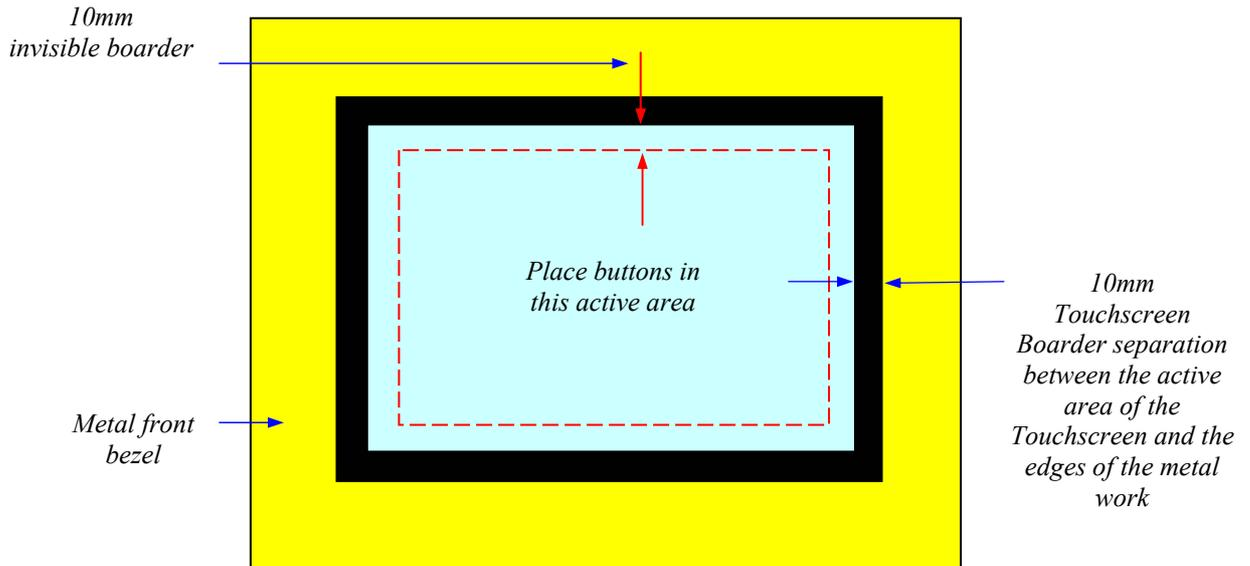

Figure 4: Recommended Metal bezel spacing and activation button placements
- Ideally the front metal bezel aperture should be 10mm greater all round than the active area of the touchscreen, as illustrated in Figure 4. If this is not possible, then the application software that is to be executed in the final application should have all critical activation buttons placed as least 10mm in from the edge of the active area of the touchscreen. Activation buttons should also be made a significant size for ease of use by the user. Avoid placing critical activation buttons in extreme corners or edges of the touchscreen active area.